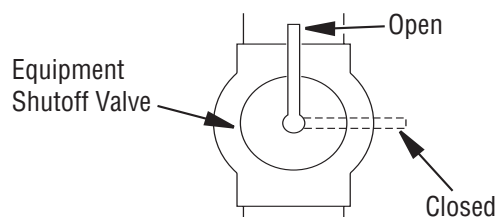

Figure 14 - Equipment Shutoff Valve
1. Close equipment shutoff valve (see Figure 14).
1. Open equipment shutoff valve (see Figure 14).
4. Close equipment shutoff valve (see Figure 14, page 10).